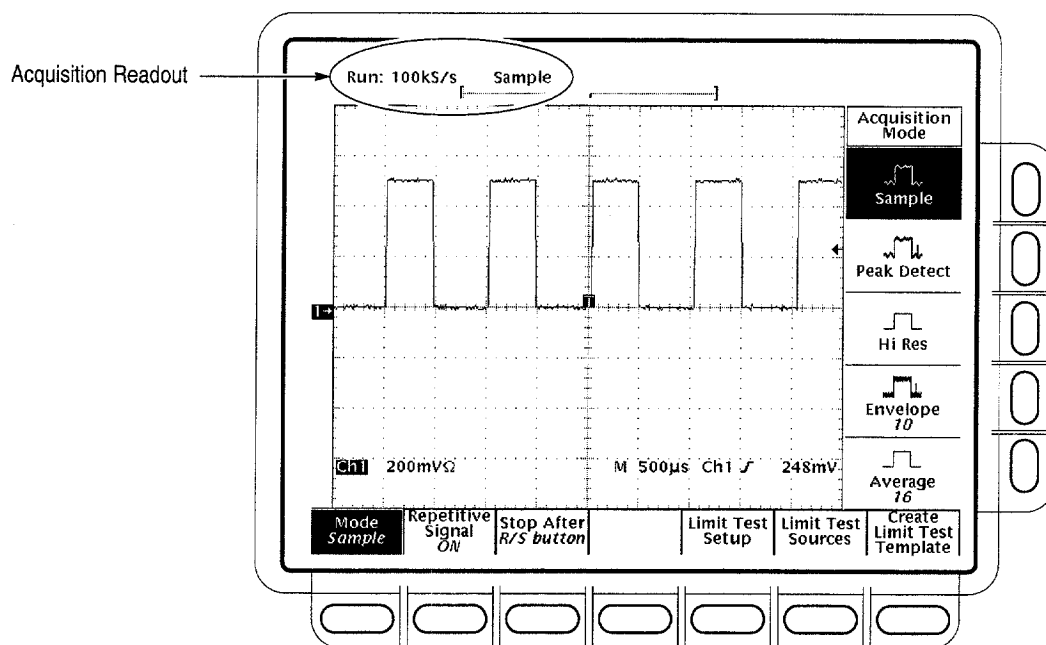

Figure 3–16: Acquisition Menu and Readout
To determine the acquisition sampling rate, the acquisition state (running or stopped), and the acquisition mode, check the Acquisition readout at the top of the display. (See Figure 3–16.) The state “Run:” shows the sample rate and acquisition mode. The state “Stop:” shows the number of acquisitions acquired since the last stop or major change.
1. Press **SHIFT ACQUIRE MENU → Mode** (main). (See Figure 3–16.)